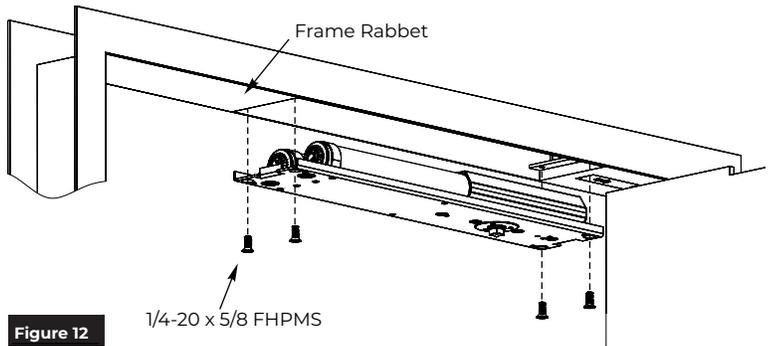

Figure 12
1. Install closer into frame with four (4) 1/4-20 x 5/8" machine screws. (Figure 12)